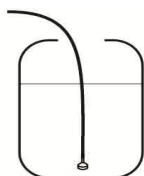

Fig.9
- 2- Insert included dispenser tube inside the detergent or rinse aid tank. (if available). (Fig.9)